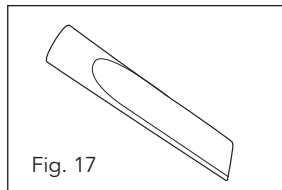

Fig. 17
The crevice tool (20) is designed for vacuuming solids and liquids in corners, edges and other areas that are difficult to access (fig. 17).